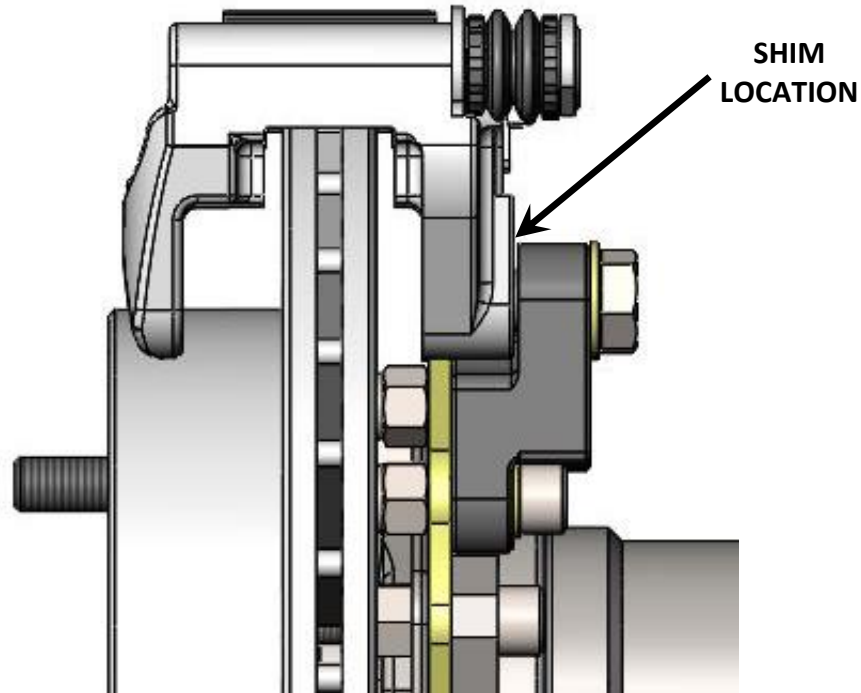

Figure 7 - Caliper Bracket Shim Location
10. Depending on original manufacturing tolerances, shimming of the Caliper Anchor Bracket may be required. To determine if shimming is necessary, measure between the Caliper Anchor Bracket and the brake rotor at both the outside and inside surface on the top and the bottom. All four measurements should be close to the same. If they are not, remove the two M12-1.75 x 35mm Hex Head Bolts and place the appropriate shims between the Aluminum Caliper Mounting Bracket and the Caliper Anchor Bracket. Figure 7 below shows the proper location of the shims. With the shims installed and the Caliper Anchor Bracket centered over the rotor, torque the M12-1.75 x 35mm Hex Head Bolts to 80 lb/ft.